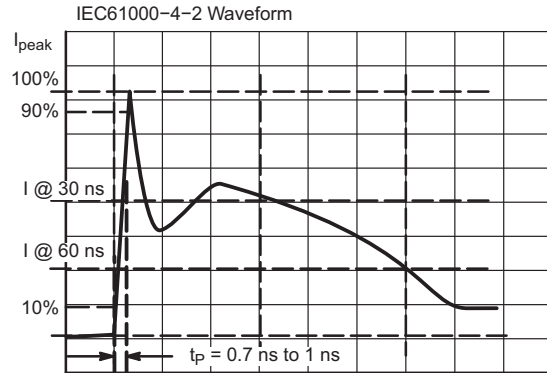

Figure 3. IEC61000-4-2 Spec
- 3.For test procedure see Figures 3 and 4.